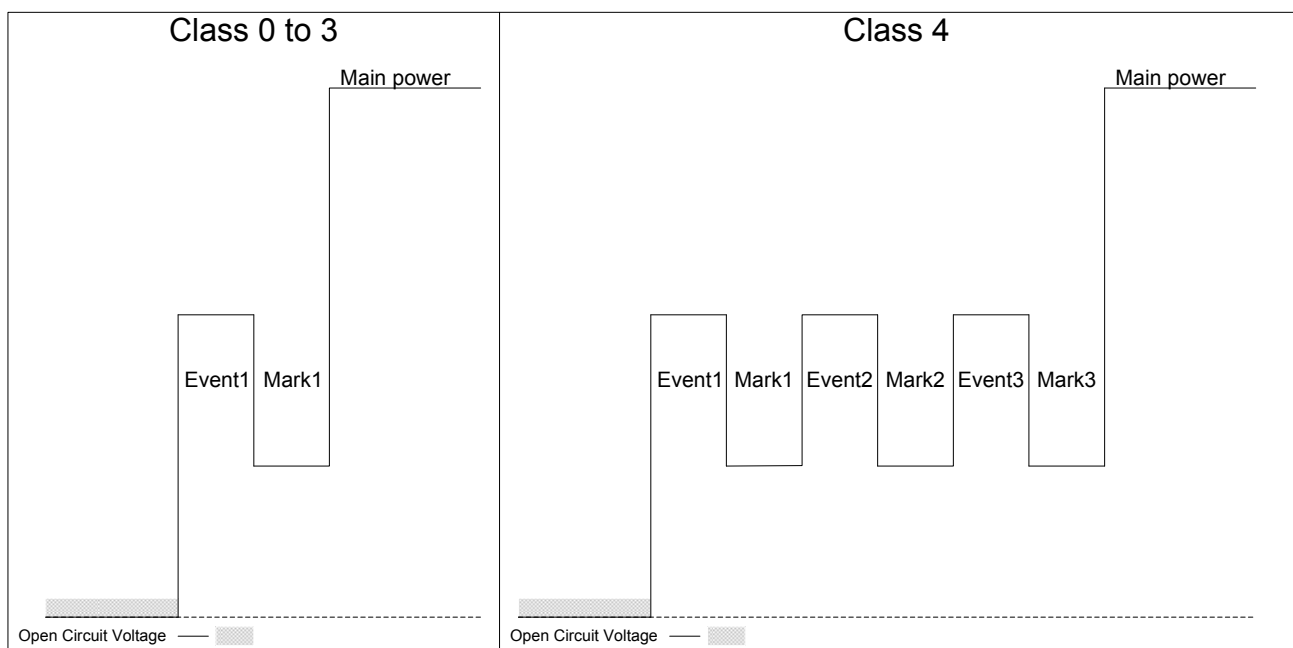

Figure 6: Classification
Upon the successful completion of a signature check, the Ag6600 will then check the Class setting of the Powered Device (PD). The Port output will give one of the two waveforms (shown in Figure 6), dependant on the Class setting of the PD.